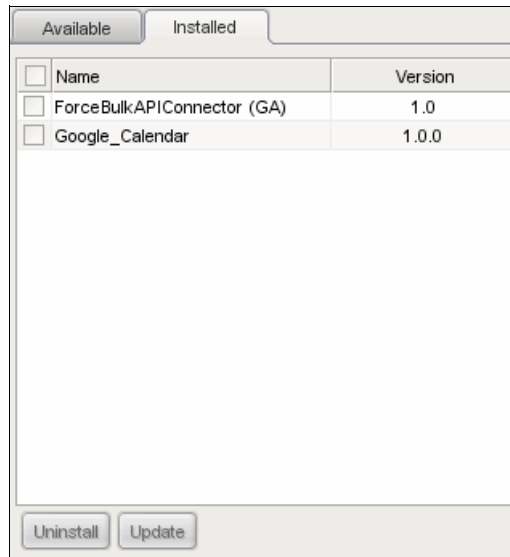

Figure 8-26 Installed tab
- The Installed tab, shown in Figure 8-26, lists all of the connectors that are installed in Studio, including the connectors that are published to the local repository. You can update or uninstall a connector or connectors. Select the connector or connectors, and then click either **Update** or **Uninstall** as appropriate.